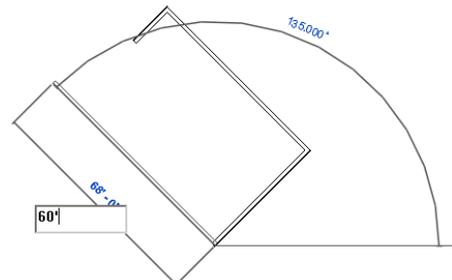

Figure 3-46 Sketching the fourth inclined wall segment
- g. Use the **Center-ends Arc** sketching option to create the curved wall, refer to Figures 3-46 and 3-47.
7. To create the next wall, move the cursor upward toward the left and invoke the perpendicular snap override as in step 5. Enter **60' (18288 mm)** as the length of the wall segment and press ENTER to create the fourth inclined wall segment, as shown in Figure 3-46.